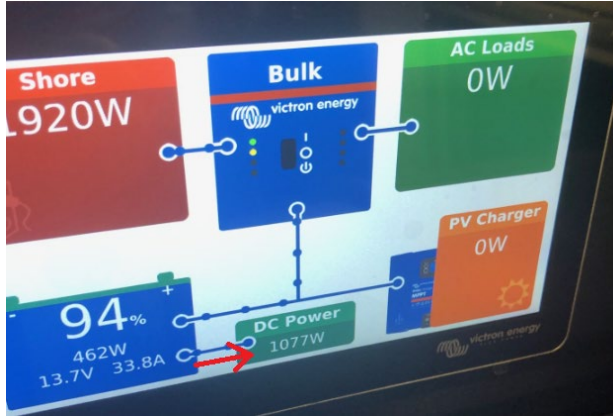

Figure 13
20. To ensure the secondary alternator is functioning as intended, start the engine. At idol, CHG AMPS will be negative, battery voltage will be green. Figure 13